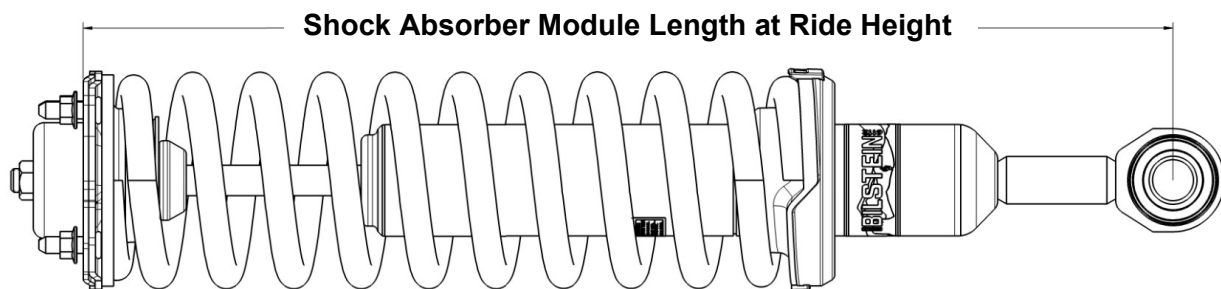

Figure 2
*** **DO NOT USE** this circlip location for stock weight vehicles. However, if substantial additional weight is added to your vehicle (e.g. heavy bumper and winch), and this results in a loss of ride height, this circlip location may be utilized to restore the vehicle to its intended ride height. Subsequently, it is essential that you verify the shock absorber module length at ride height does not exceed the value listed in **Figure 2**.
Verify the shock absorber module length at ride height specified in Figure 2 below is **less than or equal to 23 3/4" (603mm)**. If the resultant shock absorber module length is greater than 23 3/4" (603mm), a lower circlip location should be used.